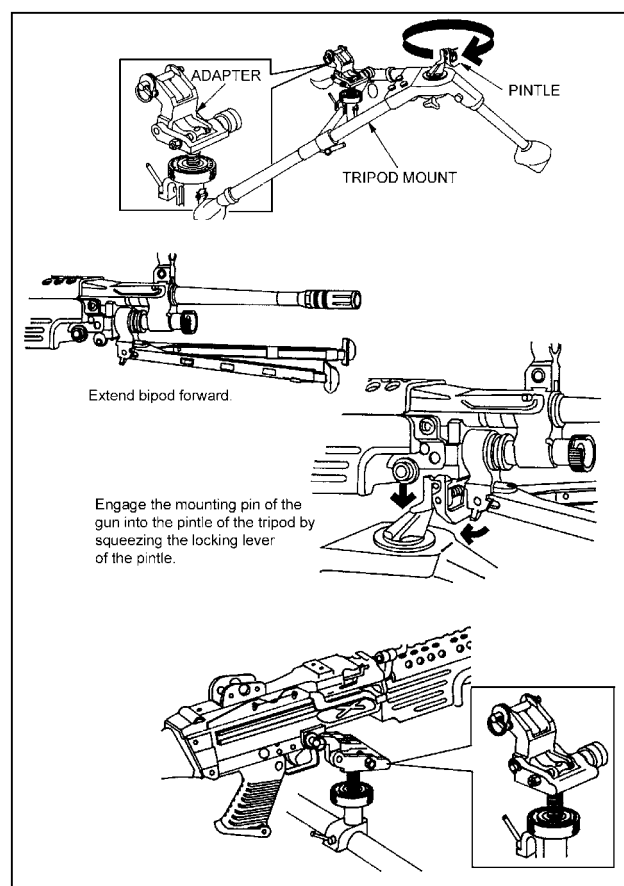

Figure 1-34. Tripod mount.
(2) To set up the tripod, unfold the front leg and spread the rear legs until the leg lock engages. Insert the pintle assembly and rotate the pintle lock-release cam to lock. Ensure that the locking lever of the pintle is facing forward toward the front leg (Figure 1-34).
(3) Attach the traversing and elevating mechanism (which requires a special adapter). Ensure that the adapter pin is to the right and the opening between it is to the rear. Center the elevating and traversing handwheels. To do this, he rotates the elevation handwheel until about 1-1/2 inches (two fingers) are visible on the upper elevating screw; he rotates the traversing slide until about two fingers are visible on the lower elevating screw. He rotates the traversing handwheel towards his body as far as it will go, then turns it away two complete revolutions. He checks the traversing handwheel scale to ensure the "0" on the scale is aligned with the "0" index line before and after the two revolutions. The T&E is now roughly centered. At night, he positions the traversing mechanism by turning the traversing handwheel toward his body as far as it will go, and then turning it away 50 clicks (two revolutions) (Figure 1-34).
(4) With the T&E roughly centered, he lowers the traversing slide on to the traversing bar with the locking lever to the rear, and the traversing handwheel to the left, and secures it by turning the locking lever clockwise (Figure 1-34).
(5) The weapon attaches to the M122 tripod. First, he extends the bipod legs forward. Then, he engages the mounting pins (Located between the front of the handguard and the bipod legs) of the M249 into the pintle of the tripod by squeezing the locking lever of the pintle. He lowers the rear of the weapon so that the hole above the trigger guard can be engaged with the locking pin of the T&E adapter. He aligns the hole with the pin of the adapter and pushes the pin from right to left to secure the M249 to the M122 tripod (Figure 1-34).
(6) After the M249 is attached and secured to the tripod, the gunner must attach a special ammunition adapter to the M249. He inserts the adapter into the magazine well, as if inserting a magazine. This procedure allows the gunner to use the 200-round drum of ammunition (Figure 1-34).